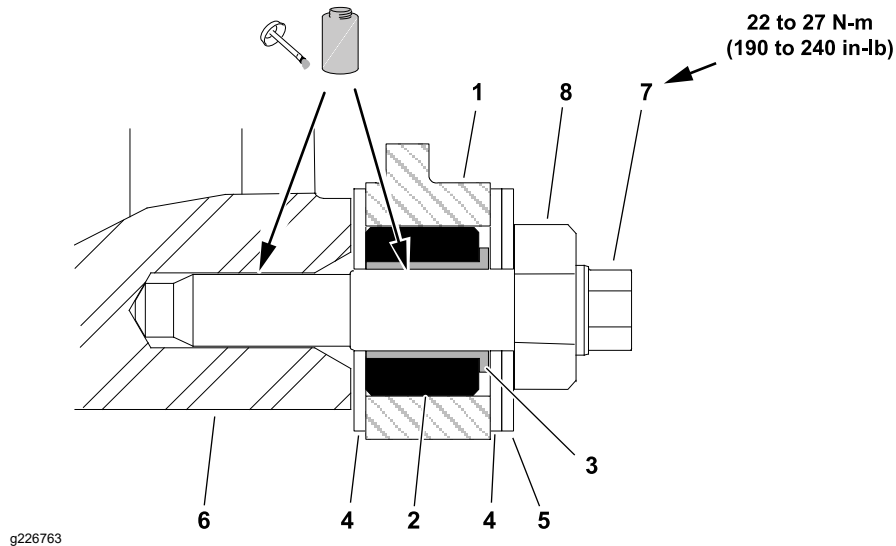

Figure 100
1. If rubber bushing (item 2 in Figure 100) was removed from either side plate, apply grease to outside surface of new bushing and install into side plate (1). The bushing (4) should be installed flush with the inside surface of the side plate; refer to Figure 100.
2. If removed, install the nylon bushings (4) with flange facing outward; refer to Figure 100.
3. Apply anti-seize lubricant to the threads and shank of each bedbar bolt (7); refer to Figure 100.
5. Position one plastic washer (item 4 in Figure 100) between the bedbar (16) and each side plate (1).
6. Slide a metal washer (item 5 in Figure 100) onto the bedbar bolt (7).
7. Install the bedbar bolt assemblies (item 7 in Figure 100). Make sure that the washers are not caught on the threads of the pivot bolts. Torque tighten each bedbar bolt (7) from **22 to 27 N·m (190 to 240 in-lb)**.
8. Tighten both lock nuts (item 8 in Figure 100) until outside metal washers do not have any end play and can still be rotated.